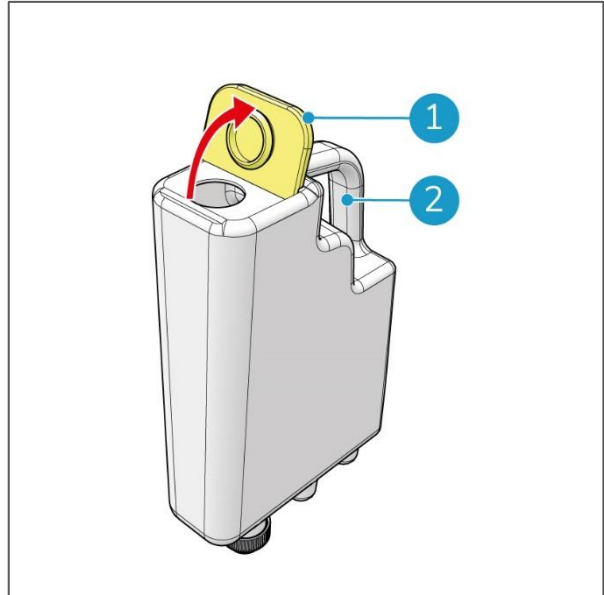

Figure 52
1. Remove the detergent tank by the handle (Figure 52, pos 2) and put it on a level surface.
2. Open the yellow filler cap (Figure 52, pos 1).